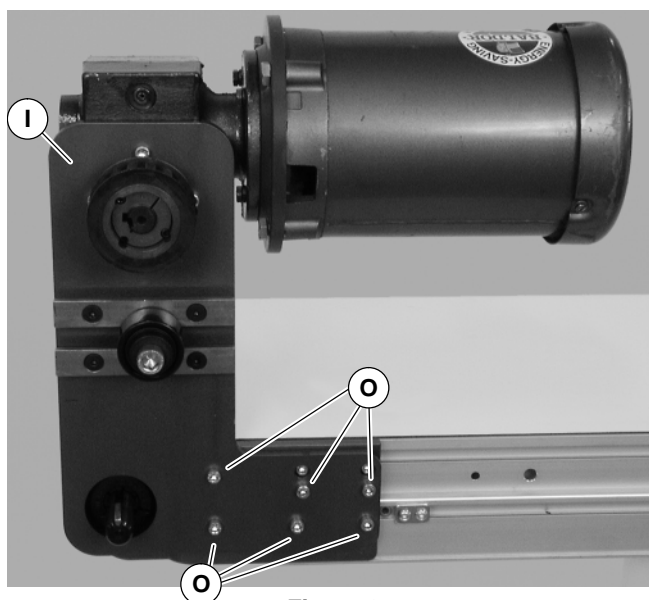

Figure 6
- Attach mount assembly (I of Figure 6) with screws (O). Install medium length screws on bottom, long screw upper left, short screws upper right. Tighten screws 110 in-lb (12 Nm).